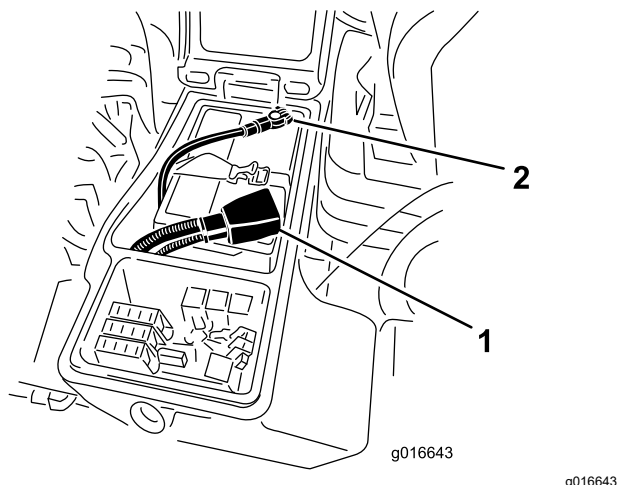

Figure 97
6. Install the positive cable (red) to the positive (+) terminal and the negative cable (black) to the negative (-) terminal of the battery (Figure 97).